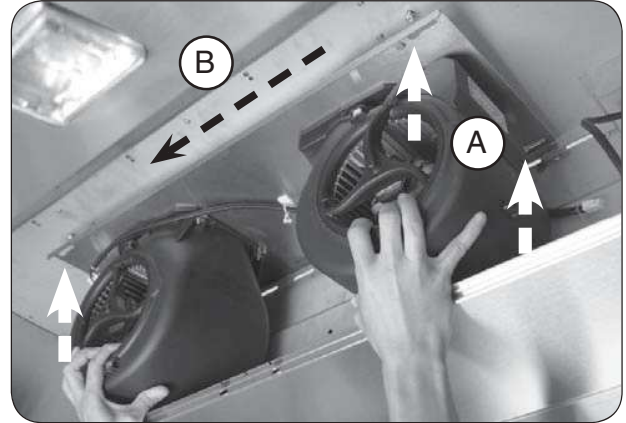

Fig. 16-1 Insert fan assembly
1. Locate the (4) nuts pre-installed to the ceiling of the vent hood, and using a  $\frac{3}{8}$ " nut driver, loosen (but do not remove) to allow for the fan assembly to be inserted. See Fig. 16-1.
2. With the open ends of the fans facing the front of the vent hood, carefully position the fan assembly, aligning the keyholes to the loosened nuts. See Fig. 16-1, A.
3. Mount the fan assembly flush against the vent hood ceiling ensuring the nuts protrude through the keyholes, then slide the assembly to the left so that it hangs from the nuts. See Fig. 16-1, A and B.